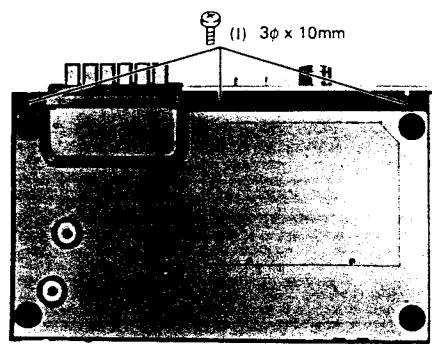

Figure 18
3. Remove the three screws (I). (See Figure 18).